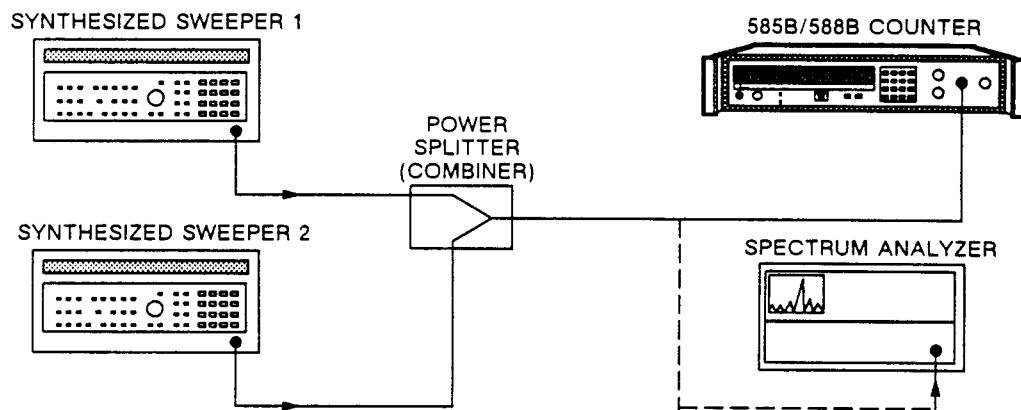

Figure 8-7. Band 2 Amplitude Discrimination Test Setup.
- Connect equipment as shown in Figure 8-7.